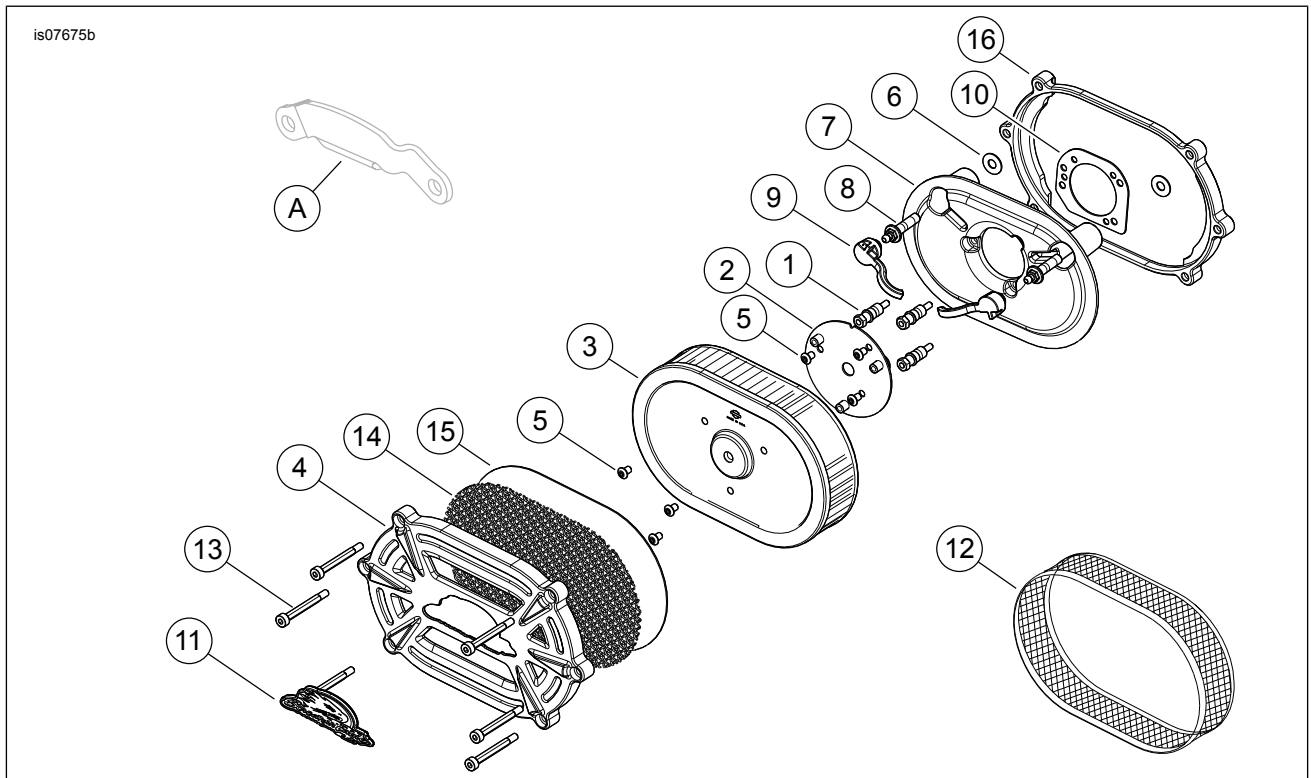

Figure 3. Service Parts, Screamin' Eagle Extreme Billet Ventilator Performance Air Cleaner Kit
See Figure 3 and Table 1.
3. See Figure 3. Remove and discard the induction module bracket (A).
1. Remove the liner from the adhesive backing of the gasket (10). Carefully position the adhesive side of the gasket to the backplate, aligning to the equally spaced screw holes. Press the gasket firmly into place.
2. See Figure 3. Insert the two breather bolts (8) through the air cleaner backplate (7). Remove the adhesive backing on the two intake tube gaskets (6). Install on the induction module side of the backplate.
5. Thread the air cleaner mounting studs (1) all the way through the backplate (8) until the screw threads are captured in the induction module. Leave fasteners loose.
1. See Figure 3. Secure the air filter element (3) to the adapter plate assembly (2) using three hex socket button head screws (5). Tighten the screws to 6.2–6.8 N·m (55–60 **in-lbs**).
2. Remove the liner from the adhesive backing of the air cleaner emblem (11). Carefully position the adhesive side of the emblem to the front cover (4). Press the emblem firmly into place.
3. Assemble wire mesh (14) and filler plate (15) to front cover.
4. Apply Loctite 243 - Blue to all cover screws (13) and mating tapped holes in back cover (16).